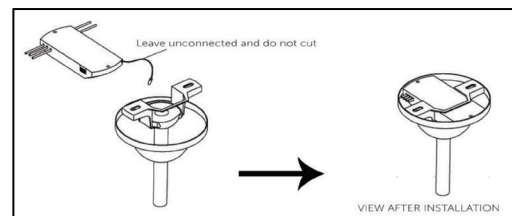

Fig. 9
- Once the receiver and remote are paired, insert the receiver into the downrod bracket (Fig. 9).